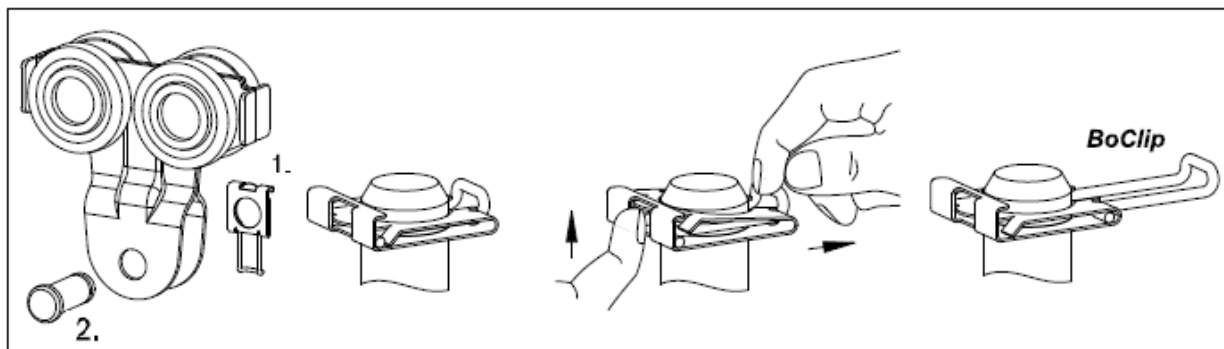

fig. 54.1
2. Remove the block clips **1** (instructions in fig.54.1) and remove the suspension pins **2**
6. Remove the block clips **1** (Instructions in fig.54.1) and remove the suspension pins **2**